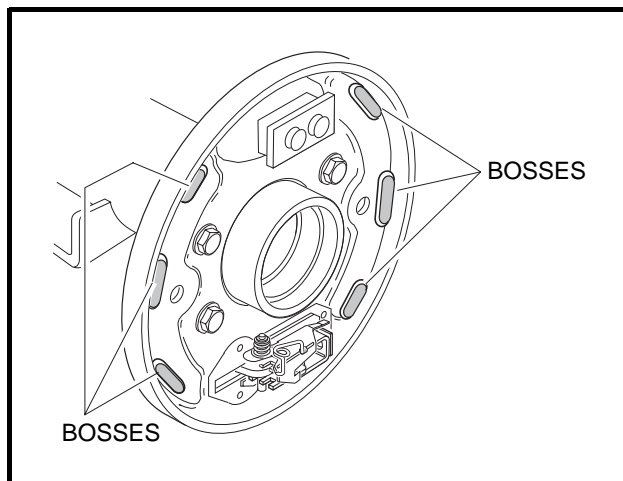

Figure 6-9 Apply Grease On Bosses
4. Use a small brush to carefully apply a light coat of white lithium NLGI #2 grease (Dow Corning® BR2-Plus or equivalent) on each of the six raised bosses on the brake backing plate (**Figure 6-9, Page 6-5**). See preceding **WARNING**.